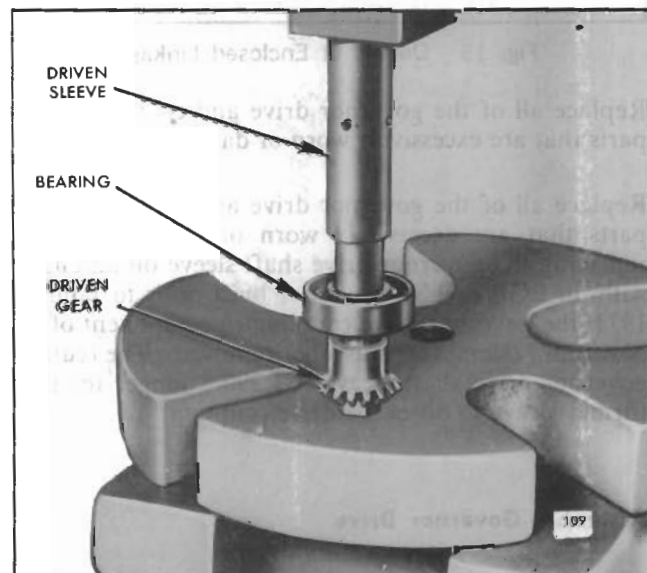

Fig. 18 - Installing Bearing and Driven Sleeve on Driven Gear
- c. Place the driven gear, bearing and sleeve assembly on the bed of an arbor press, with a spacer under the gear (Fig. 18) to support the gear teeth above the bed of the press. Then press the sleeve and bearing tight against the shoulder on the driven gear.